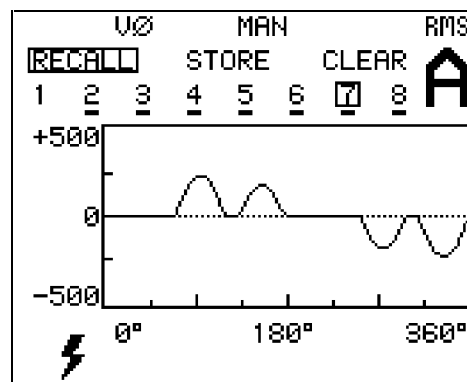

Figure 18. Memory Screen
Referring to Figure 18, use the following procedure to store and recall measurements:
1. Press **MEMORY** to access the waveform storage screen. The Tester freezes the existing waveform and shows the screen in Figure 18.